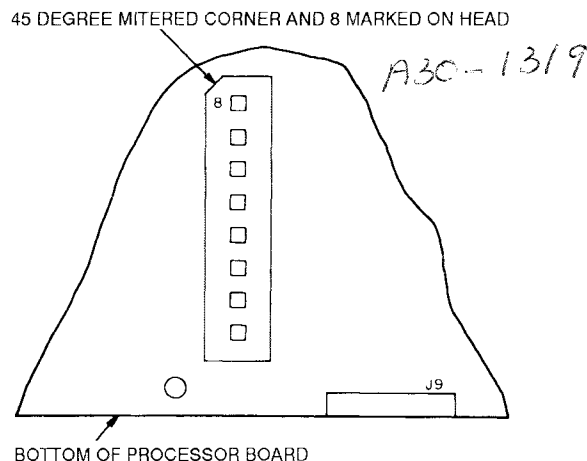

Fig. 27 — Configuration Header
8. Remove the factory-installed configuration header from the old processor board. Use a small screwdriver to wedge under the configuration header to remove it; then reinstall the header in the new board. The orientation of the header should be as shown in Fig. 27. Use extreme care in handling the header.